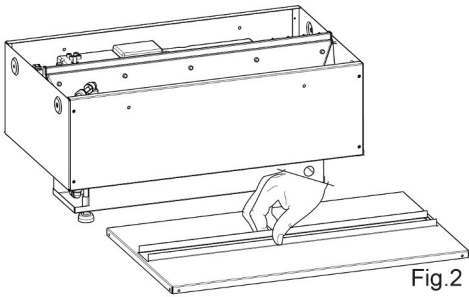

Fig.2
4. Lift off the metal top plate to gain access to the appliance. Keep the top plate with the packing for possible future use. (Fig.2)